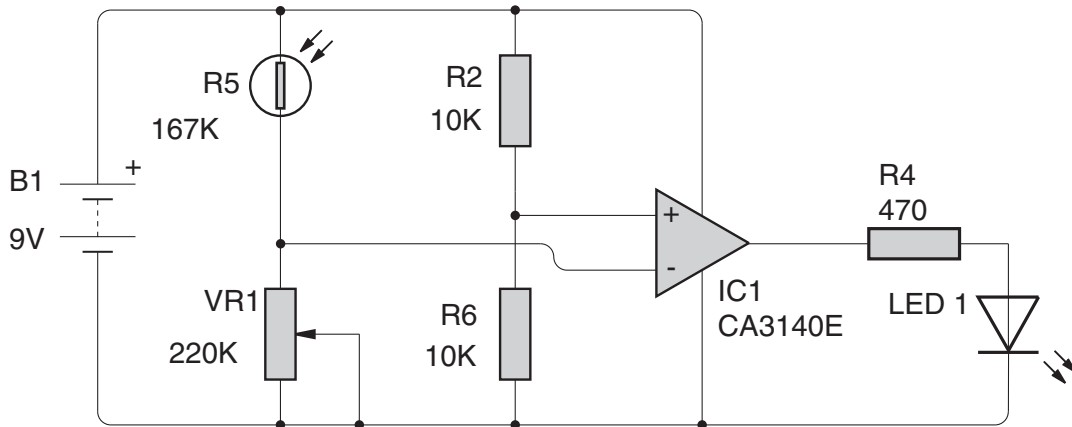

Fig. 16
- 5 (a) An automatic garden light which will switch on at dusk is being designed. Fig. 16 shows a test circuit that has been drawn using CAD simulation software.